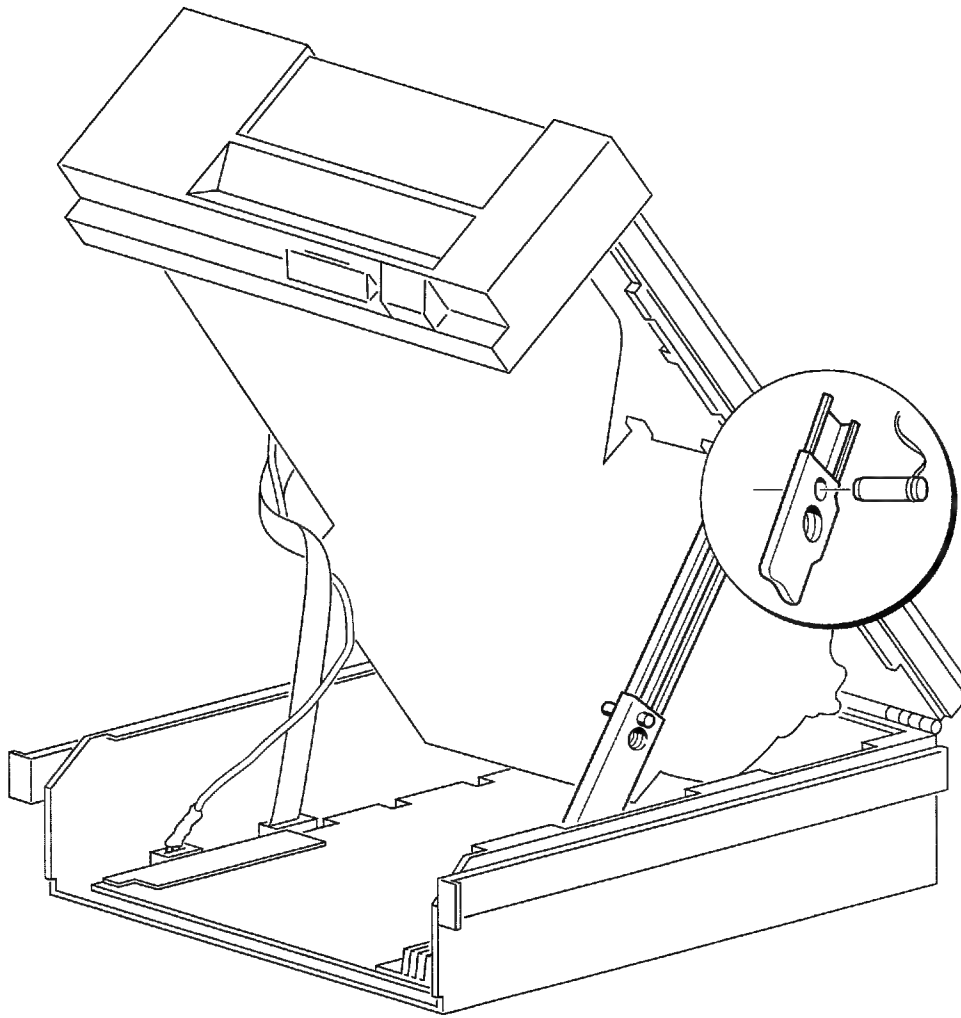

Figure 1-4. Inserting Safety Pin Into Support Arm
7. Insert the safety pin into the hole in the support arm. See Figure 1-4.
6. Insert the safety pin into the hole in the support arm. See Figure 1-4.